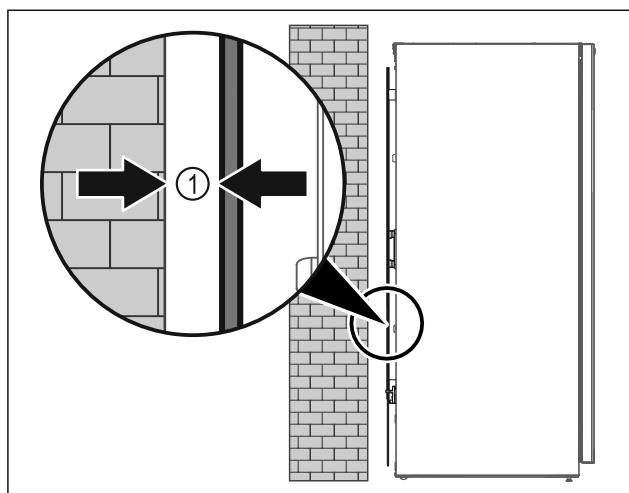

Fig. 45
- Set up the appliance either free-standing or directly against a wall at a minimum distance of 5 mm Fig. 45 (1).